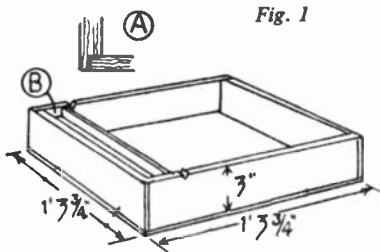

Fig. 1
Construction is quite simple, and the cost in timber reasonable. Make a start by constructing the box compartment, shown in Fig. 1. Any good quality wood, $\frac{1}{4}$ in. thick, can be employed. The dimensions given are the outside ones. For the corner joints, the rebated joints, shown at (A) should be made. Glue and nail together with oval nails, the nail heads being afterwards punched below the surface and stopped up level.